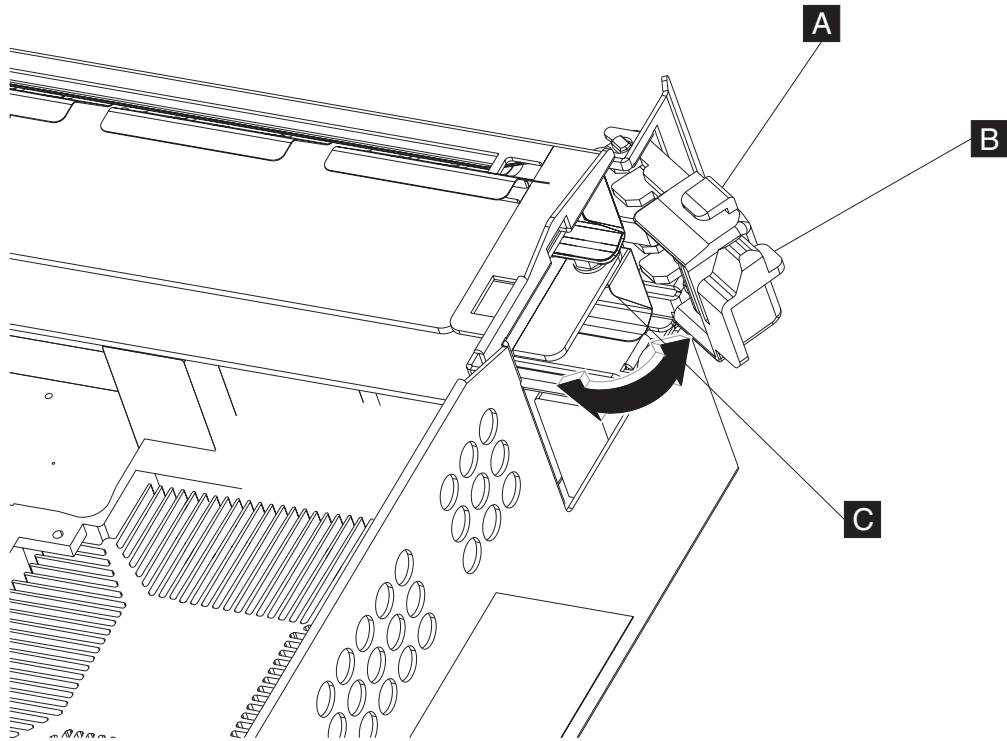

Figure 27. Opening the I/O module latch
3. Open the I/O modules latch (**A** in Figure 27) by pressing down on its locking tab (**B**) and rotating it counterclockwise on its hinge.